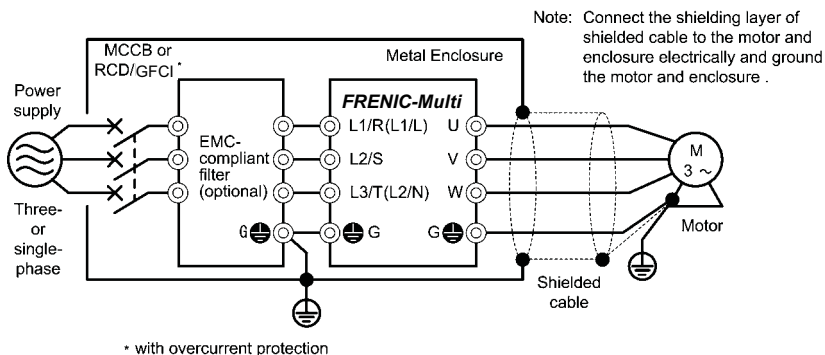

Figure 10.4 Installing the Inverter with an External EMC-compliant Filter (Optional) into a Metal Enclosure
- 3) If noise from the inverter exceeds the permissible level, enclose the inverter and its peripherals within a metal enclosure as shown in Figure 10.4.